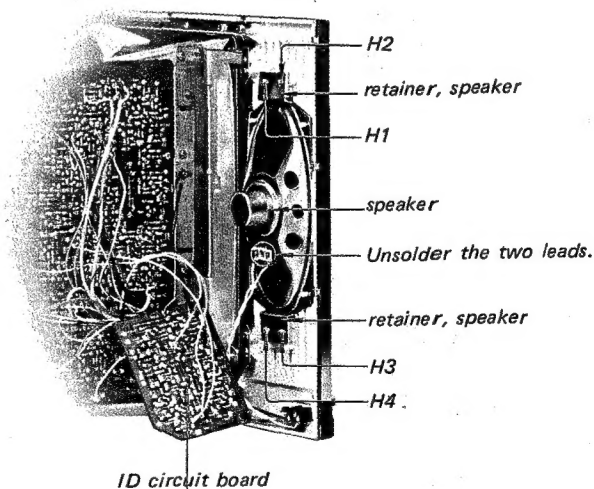

Fig. 2-10.
3. Remove the four screws labeled H1 ~ H4, and the speaker holding brackets as shown in Fig. 2-10.